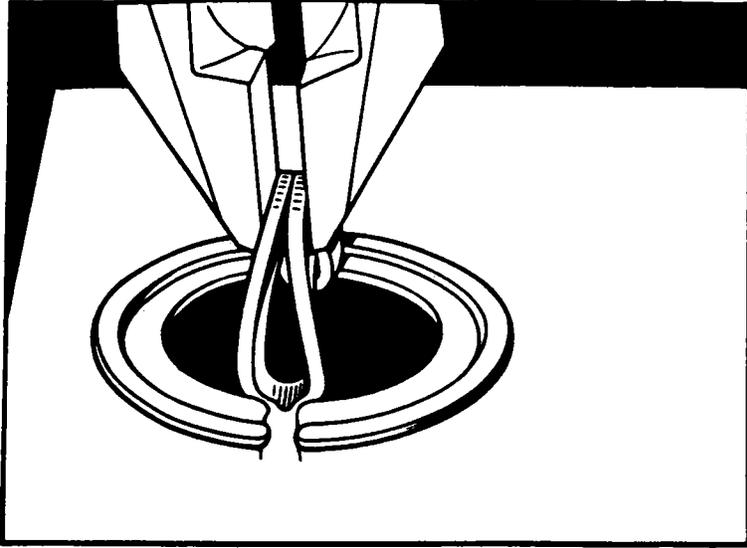
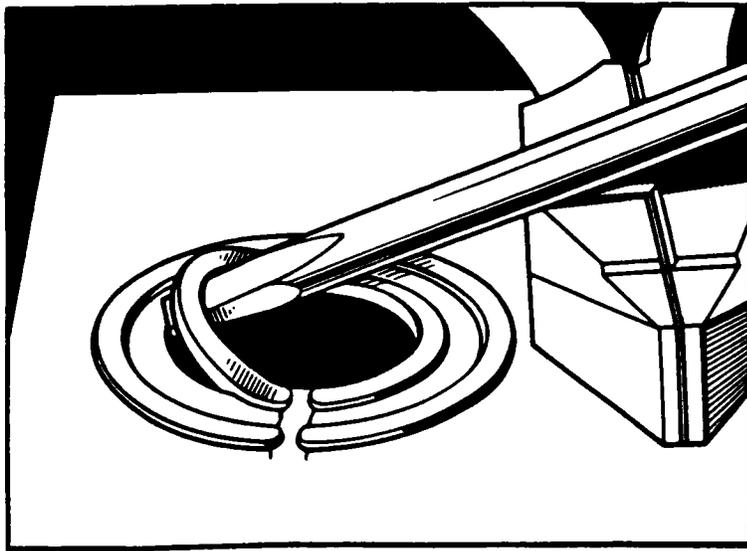

Figure 3-3
Figure 3-2
- b. Pry first ring OUTWARD with screwdriver midway between ties, using pliers flat against under screwdriver (Figure 3-2). Bend ring sections OUTWARD with pliers, then back and forth to break ties (Figure 3-3).